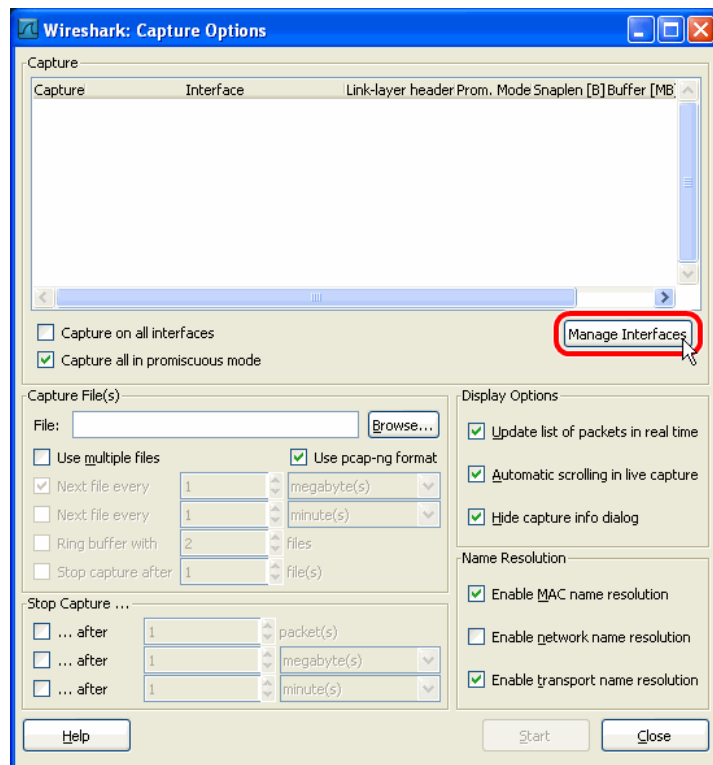

Figure 303: Wireshark Capture Options Dialog.
1. Open Wireshark and choose the menu **Capture** → **Options...** . This opens the **Capture Options** dialog as shown in Figure 303.